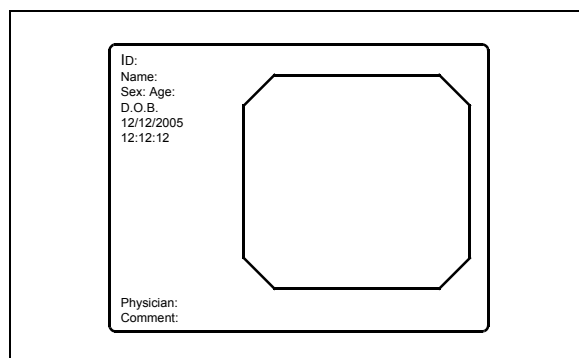

Figure 4.6
3. The endoscopic image appears on the monitor (see Figure 4.6).